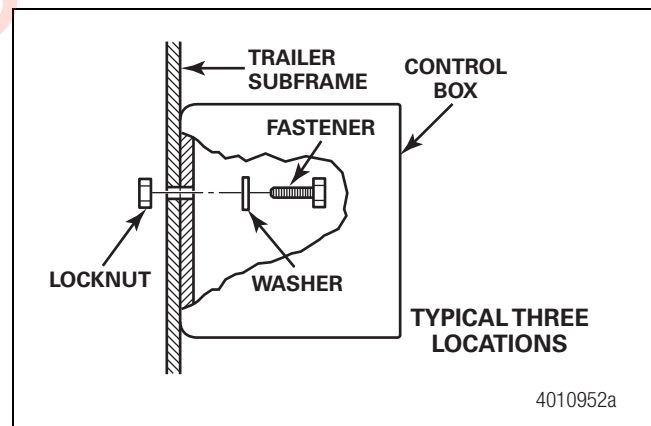
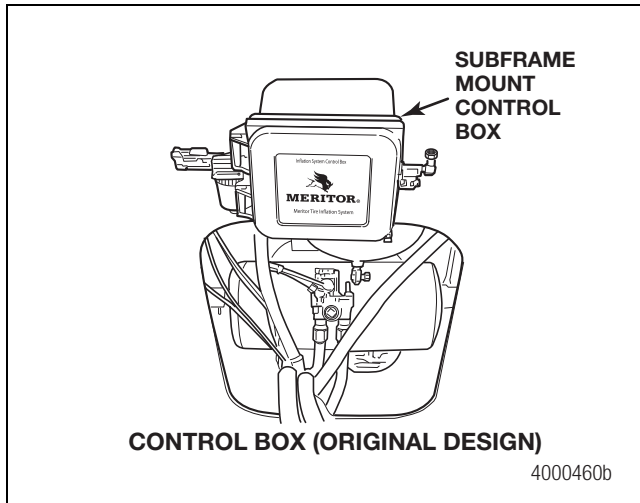
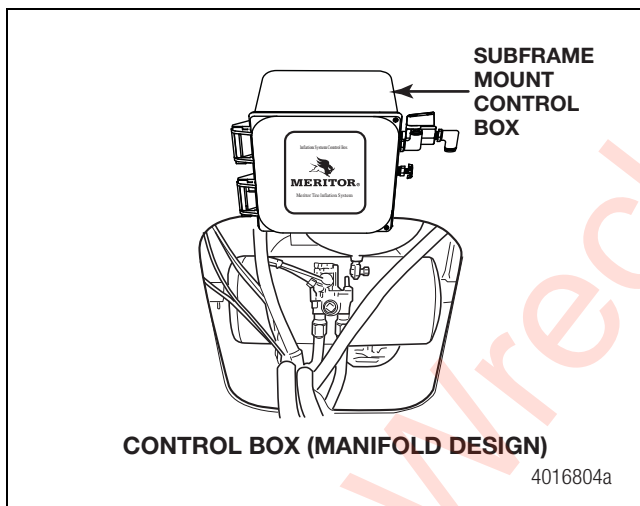

Figure 2.56
Figure 2.57
Figure 2.58
2. Discard the supplied mounting bracket. Use the supplied 1/4-inch (6.36 mm) fasteners, washers and locknuts to install the control box directly to the subframe. Figure 2.56, Figure 2.57 and Figure 2.58.